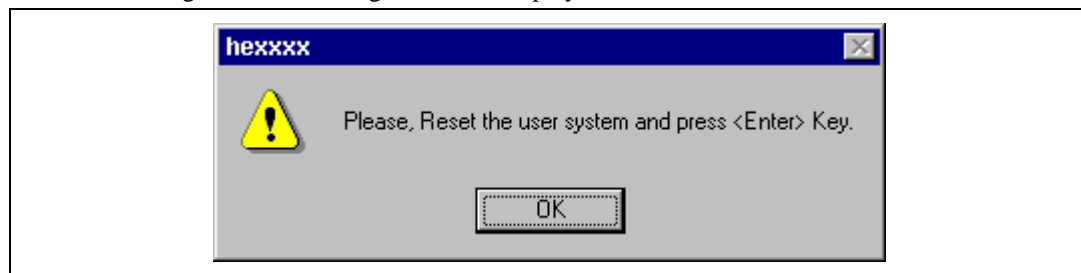

Figure 3.23 Dialog Box of the RESET Signal Input Request Message
- The dialog box shown in figure 3.23 is displayed.